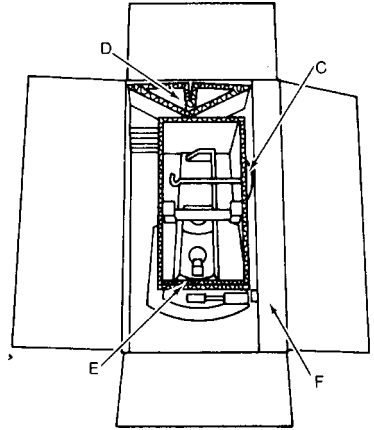

Figure 4.
1. Refer to Figures 4, 5 and 6.